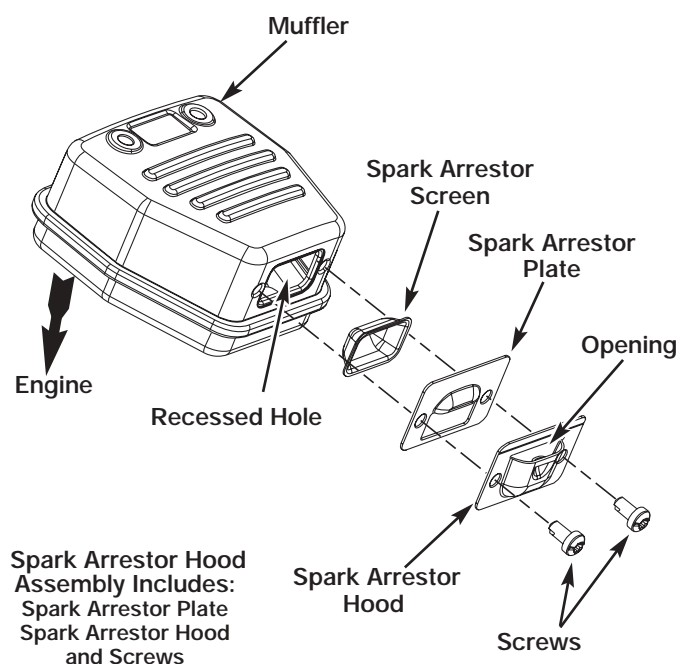

Fig. 22
2. Locate the muffler, but do not remove it. Find the two (2) screws on the bottom of the muffler (Fig. 22). These two screws hold the Spark Arrestor Hood Assembly and the spark arrestor screen to the bottom of the muffler. Remove the two (2) screws using either a torx #20 or flat blade screwdriver.
6. Place the spark arrestor plate on top of the spark arrestor with the "raised" side up and the opening facing towards the engine (Fig. 22).
7. Place the spark arrestor hood on top of the spark arrestor plate with the "raised" side up and the opening facing AWAY from the engine (Fig. 22). Verify that the exhaust will be directed AWAY from the engine.